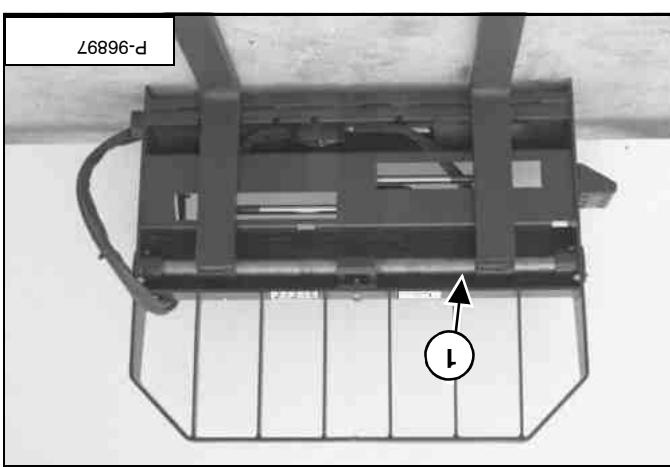

Figure 61
Slide the slide rod (item 1) [Figure 61] out. If you cannot slide the rod out, remove the other slide rod cover and drive the slide rod out.